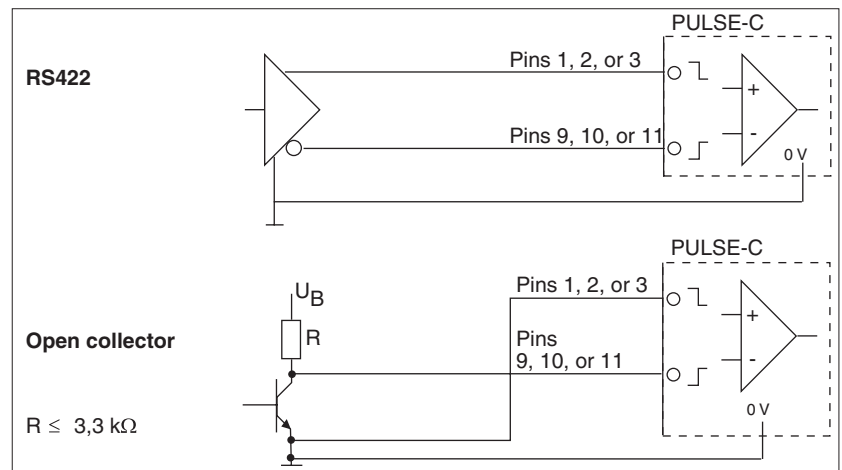

Fig. 4.27 Circuit of the signal inputs, L: Cable length
Fig. 4.27 shows a typical input circuit for the signal inputs PULSE (PV), DIR (PR), and ENABLE. Up to 10 inputs of a PULSE-C module can be connected to a single RS422-C transmitter output.